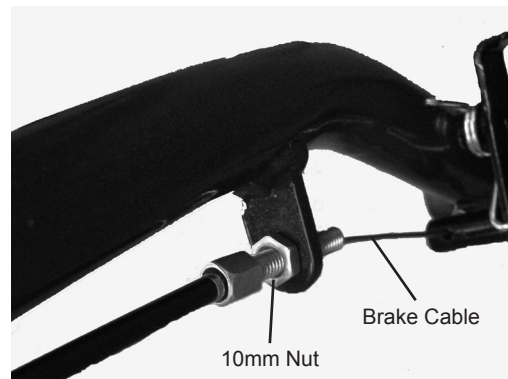

Figure 4
5. To lock the Wheels (38) in position, push down on Brake Handles until a “click” sound is heard.
8. To tighten the tension on the brake cable, use a wrench (not included) to turn the 10mm Nut under the Handle clockwise. See **Figure 4**, below.